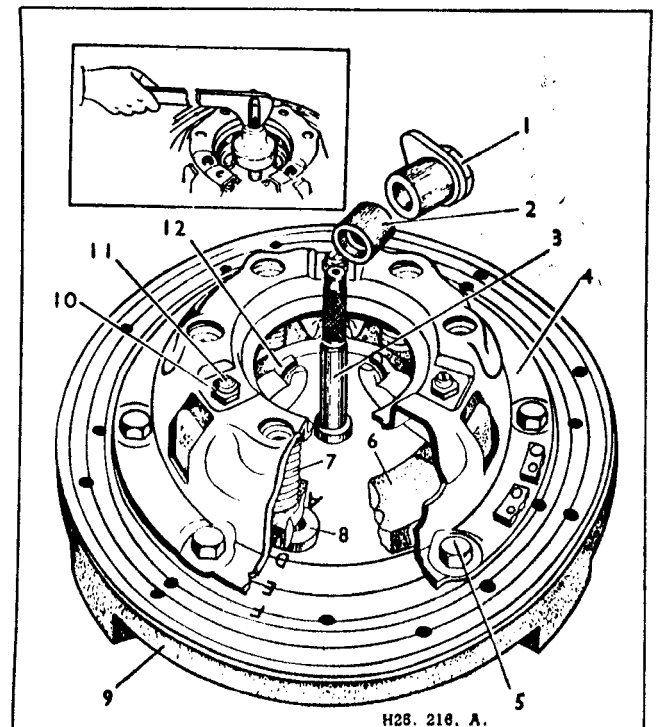

Fig. 5. Clutch assembly tool 18G.99A.
With a 9-in. clutch, select three spacing washers (Code 3) and place them over the code letter (D) on the base plate. (See fig. 5.)
Place the pressure plate over the three spacing washers on the base plate (9), with the thrust springs (7) in position on the pressure plate (6). (See fig. 5.)